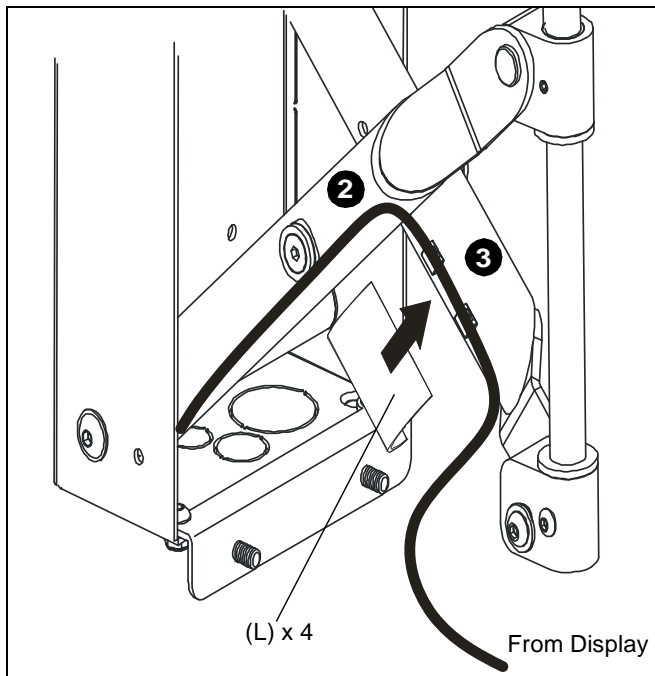

**Figure 12**
1. Locate and install cable tie clips (J) where desired for proper cable routing. (See Figure 12)